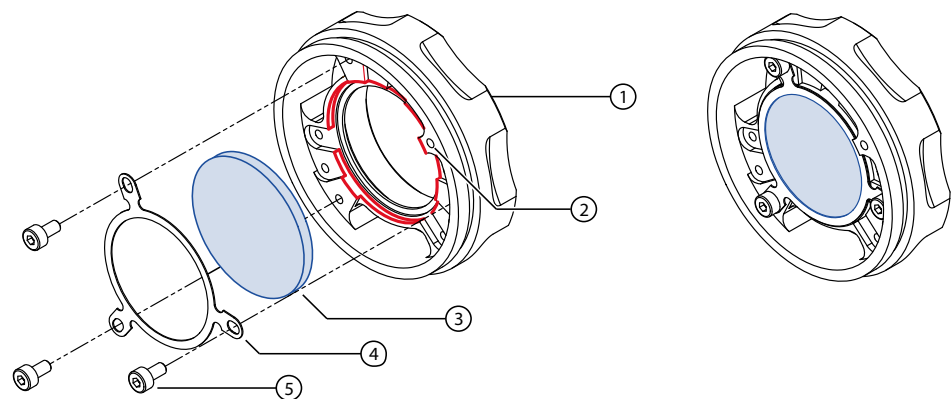

Figure 67: Changing the filter in the C-Mount adapter
To change the filter of the C-Mount lens adapter, follow the instructions outlined in Figure 67.
- See Figure 67 on page 242 (blue = filter, red = filter recess).